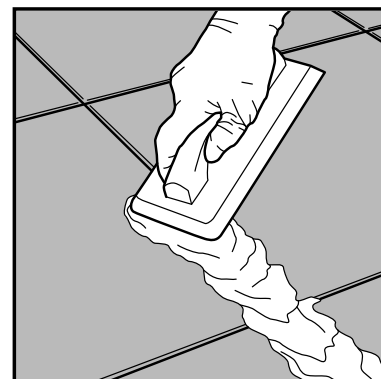

FIGURE 17 Press grout firmly into the joint
- Use the tip of a hard rubber float and fully pack the grout into the joints (Fig. 17). Hold the float in a low angle and press firmly with short strokes at a right angle to the joint.